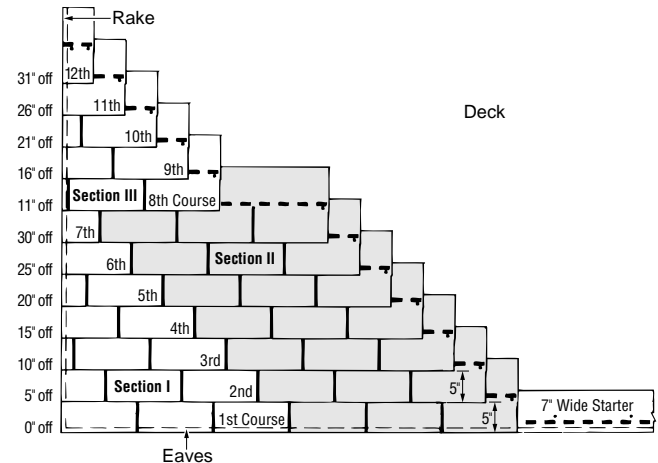

Figure 12-9: Five-Inch, Stepped-Off Diagonal Method.
1. Begin the second course by cutting 5" off the left end of a shingle and applying the 31" piece over the first-course shingle, flush with the left edge of the first-course shingle, and exposing the first course 5" (*Figure 12-9*).
3. Install "Section II" as shown in *Figure 12-9* using full shingles against the seven courses in "Section I." This must be done before continuing with courses eight through 12 ("Section III"). These "Section II" shingles are to be butted-up against the "Section I" shingles that started courses one through seven. Fasten all shingles in the normal fashion.
1. Begin the eighth course by cutting 11" off the left end of a shingle and applying the 25" piece over the seventh-course shingle, flush with the left edge of the seventh-course shingle, and exposing the seventh course 5" (Figure 12-9).